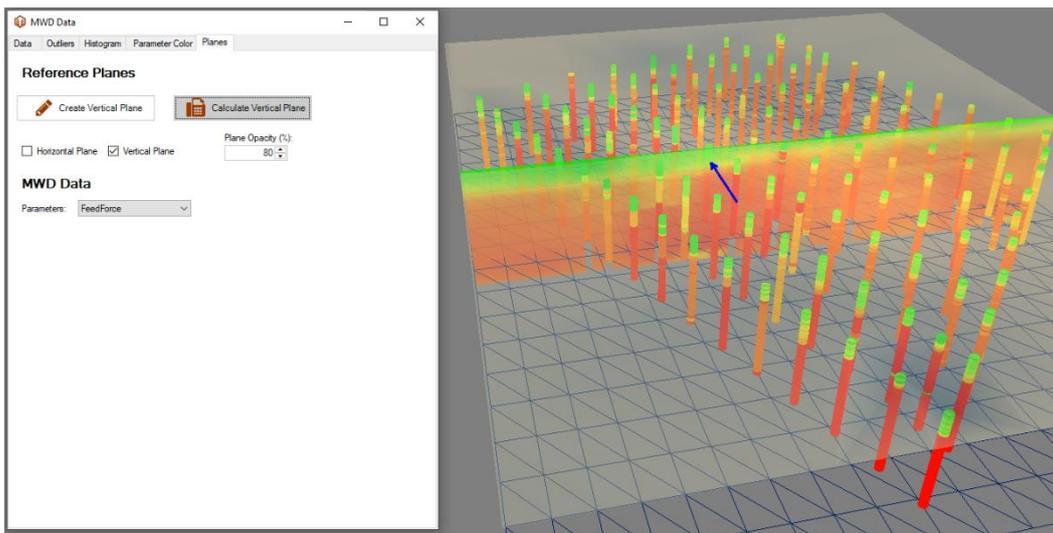

Figure 451 - MWD Data - Planes Tab: Calculating Vertical Plane.
- Click on "**Calculate Vertical Plane**" button to finalize and display the plane in the 3D scene (Figure 451).
- An arrow will appear, indicating the direction of the plane. Users can move the plane by clicking and dragging the arrow (Figure 451).